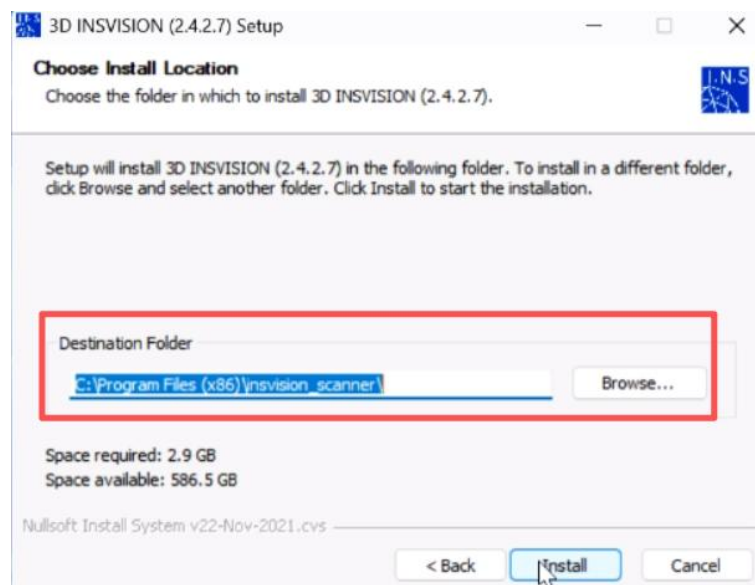

Figure 10
(4) Select the installation path; the default path is used here. Click "Install," as shown in Figure 10.